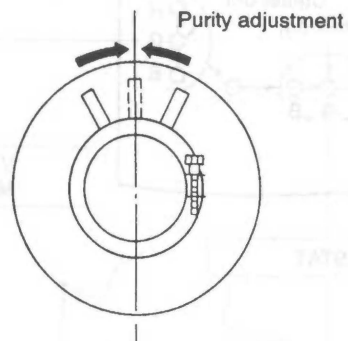

Fig. 3-1.
- 2. Position the neck assembly as shown in the figure. (Fig. 3-1.)